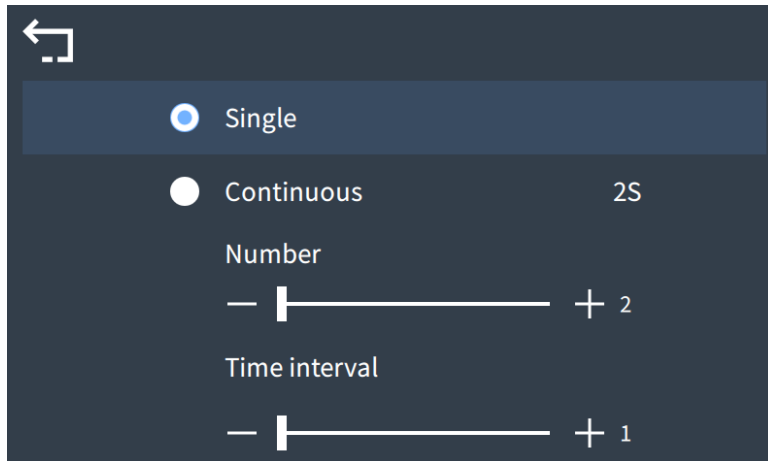

Figure 4.15 Photo Mode Settings
Step 5: There are two optional photo modes: single photo and continuous photo. For continuous photo, the number and interval of photos should be set (as shown in Figure 4.15).